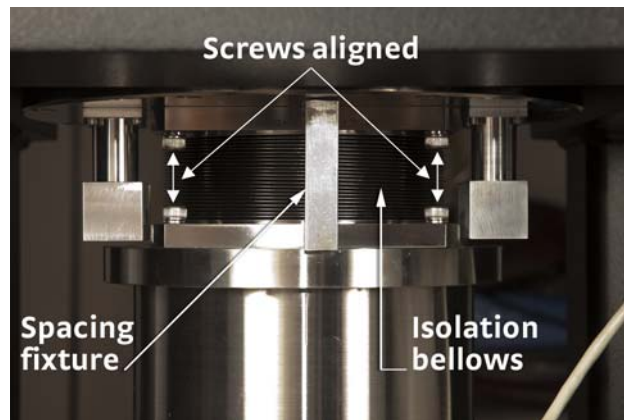

FIGURE 3-11 Proper alignment as shown: bellows straight, screws aligned and spacer in place
7. Place the spacing fixture as shown in FIGURE 3-11 between the top vacuum chamber and the CCR vacuum shroud. This will be used to set the proper 58 mm (2.3 in) spacing between the bottom of the vacuum chamber and the top of the vacuum shroud.
Pay attention to the appearance of the isolation bellows and the screws that secure it. For proper alignment, the bellows should be straight, and should not appear uneven. The opposing screws should be aligned directly above and below each other. At the correct 58 mm height spacing, none of the connector feedthroughs on the bottom of the vacuum chamber will touch the top of the vacuum shroud (FIGURE 3-11).